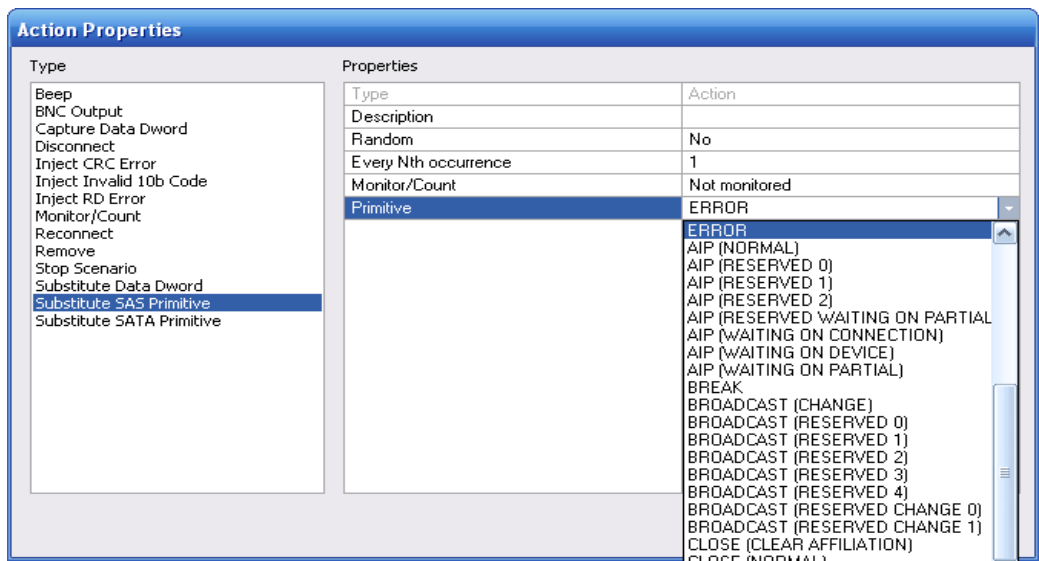

Figure 57 Example 3: Action Drop-Down List
- Step 8** The Action Properties dialog box appears (Figure 57). In the Type list on the left, choose **Substitute SAS Primitive** as the action you want when either RRDY Reserved 0 or RRDY Normal occurs.